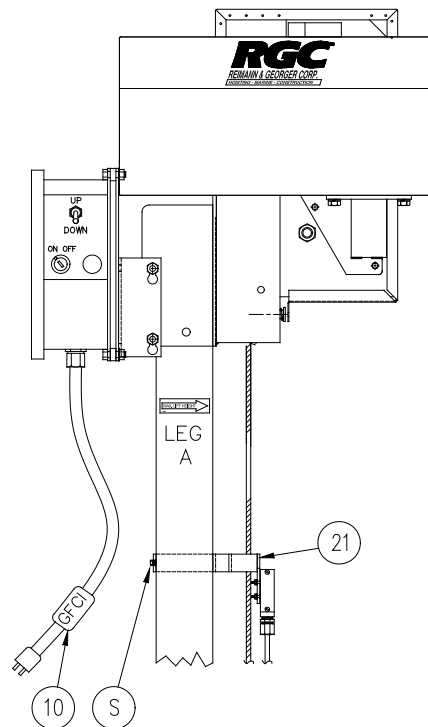

**Figure 2-4
- 1. **Refer to Figures 2-4 and 2-5.** Mount the remote control to the winch mounting bracket as shown in figure 2-6. Wire the remote control motor wires to the VL motor junction box wires as noted above. When mounting the remote control to the vertical leg, the remote control may be positioned below the direct drive or above if the lift is equipped with a canopy extension leg. For canopy equipped lifts it is preferred that the remote control be mounted to the winch mounting brackets to provide greater protection from rainwater runoff from canopy.